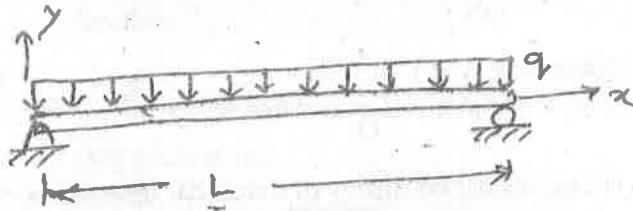

Fig. 3
- (b) A simply supported beam is subjected to uniform transverse load as shown in fig. 3. Using two equal length elements, obtain a finite element solution for the deflection at midspan and slopes at the end supports. 14